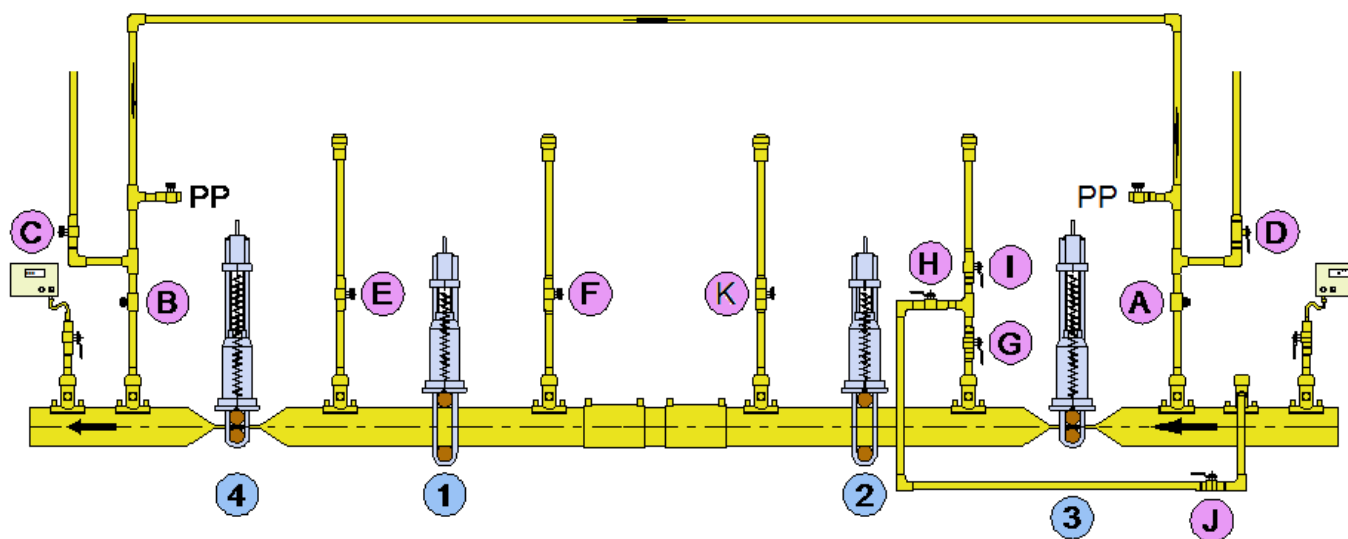

Figure 56- Removal of Squeeze-Offs 1 & 2
1. Remove flame trap from vent pipe E see Figure 56.